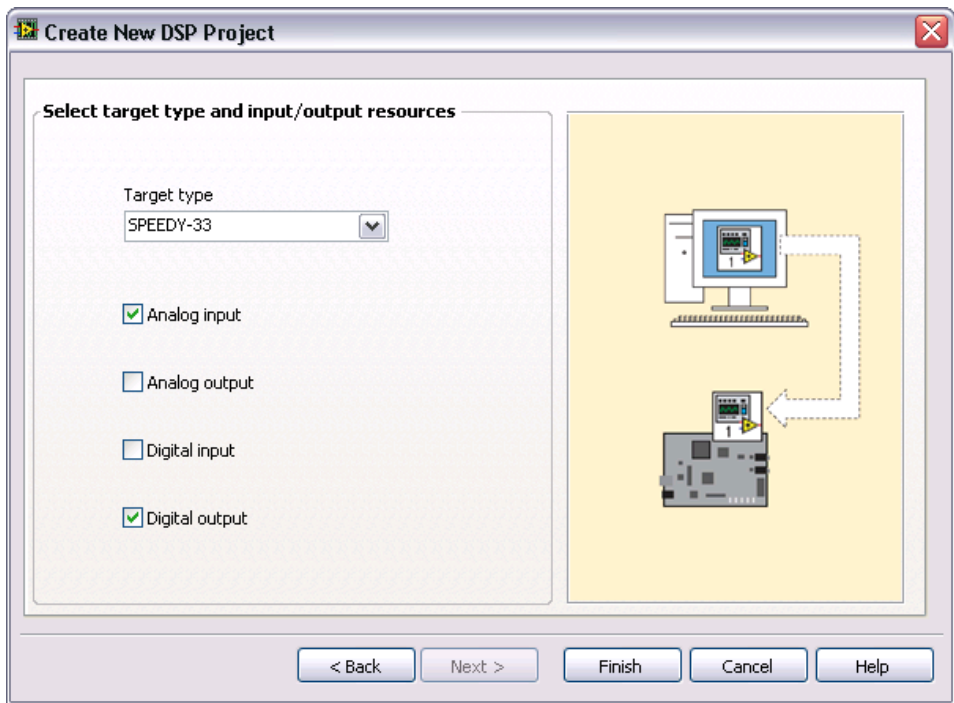

Figure 9. Specifying the DSP Target Hardware and Resources
6. Verify that only the **Analog Input** and **Digital Output** checkboxes have checkmarks. By default, the wizard adds all the resources available to the target. You can remove the checkmarks from any of the input/output resources checkboxes that you do not need, as shown in Figure 9.